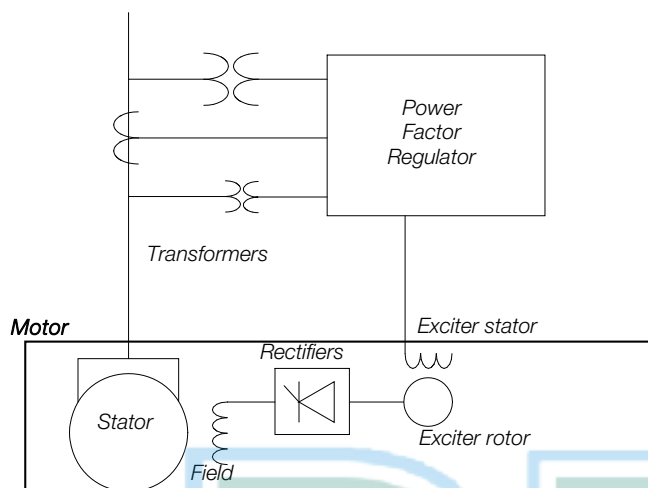

Figure 4.5: General connection diagram (brushless synchronous motor)
- Figure 4.5 shows the single line connection diagram of a synchronous motor without brushes.